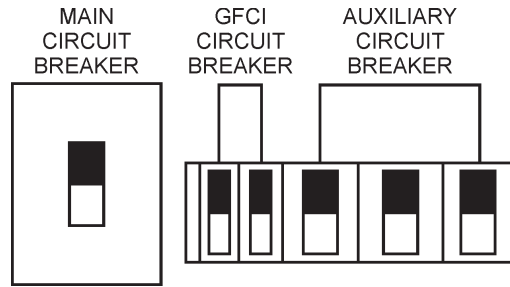

Figure 54. Main, Aux. and GFCI Circuit Breakers (ON)
18. Place the _____, _____, and _____ circuit breakers in the **ON** position (Figure 54).